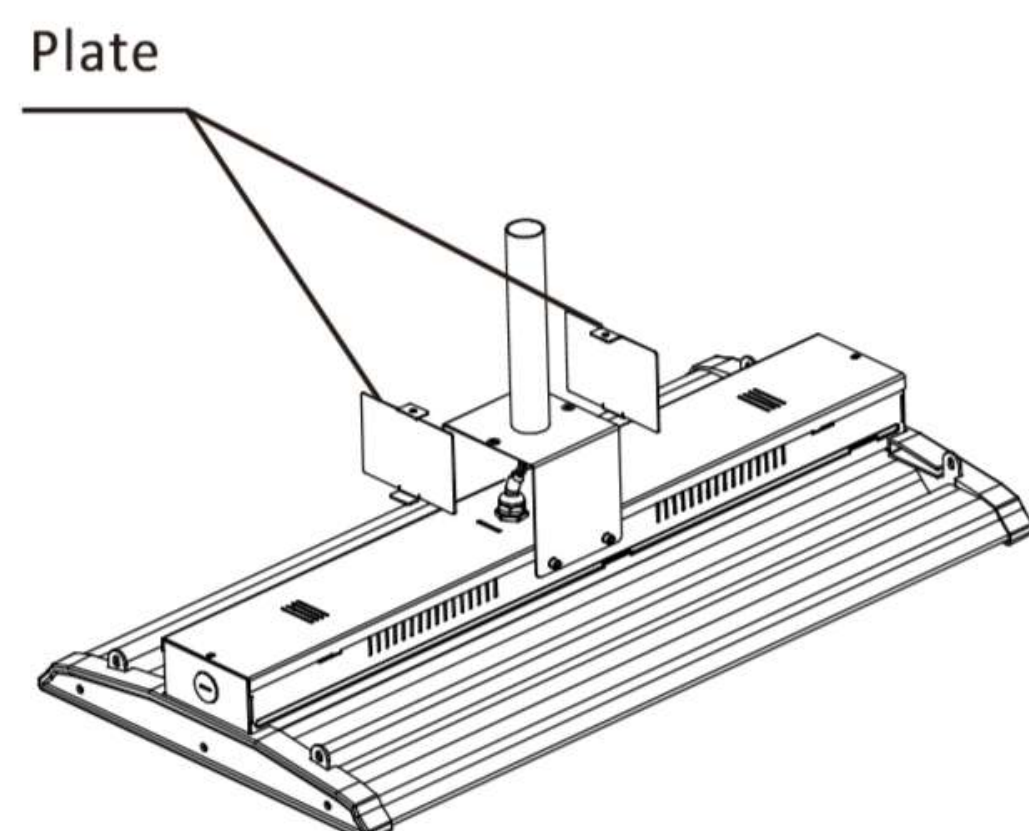

Figure 5
Step 4: Fix two side plate by screws (Figure 5)